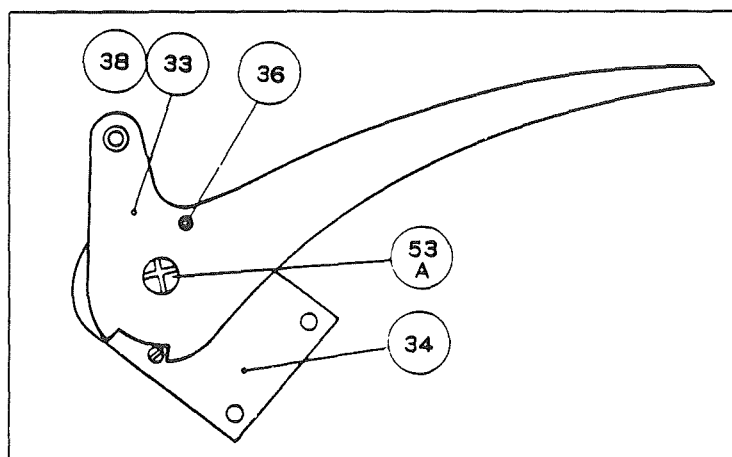

Fig. 8
Then, place the slide glass retainer (33) over the washer (37) inserting the spiral spring outer end into the pin hole of the retainer (33) and fasten the screw (53A). (Fig. 8)